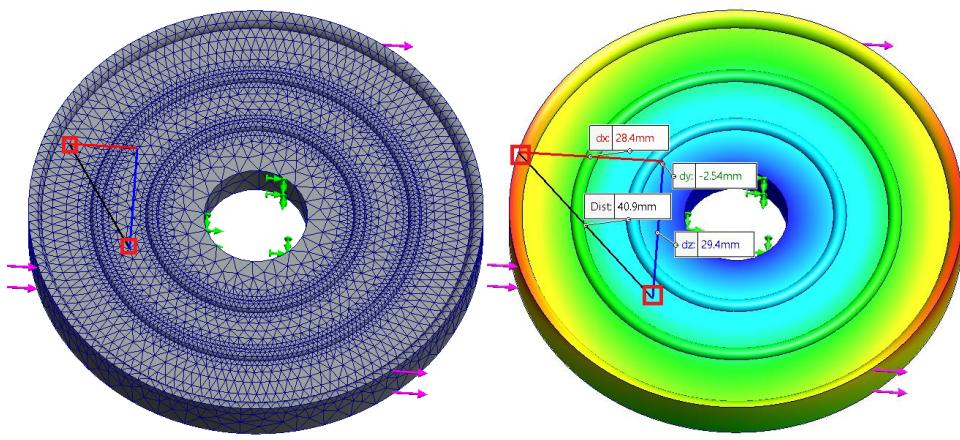

Fig 16: Distance between two nodes
- The distance between two nodes can be calculated using mesh and displacement plots (Fig 16). Right-click on Mesh/Displacement plot > select Problr > select “Distance” option > select the 2 nodes from the graphics area > and the distance between the nodes is shown on the model and PropertyManager.